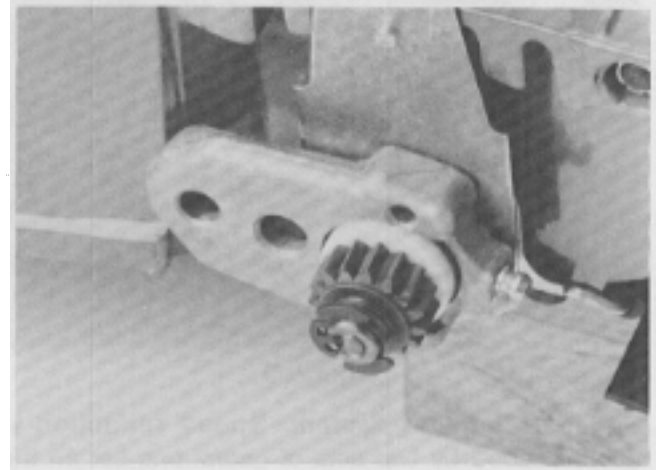

Figure 38
16. Slip the spring onto the end of the output shaft and secure with the special retaining clip. Again, make sure that the center tab fits properly into the keyway to prevent rotation of the clip. See Figure 38.